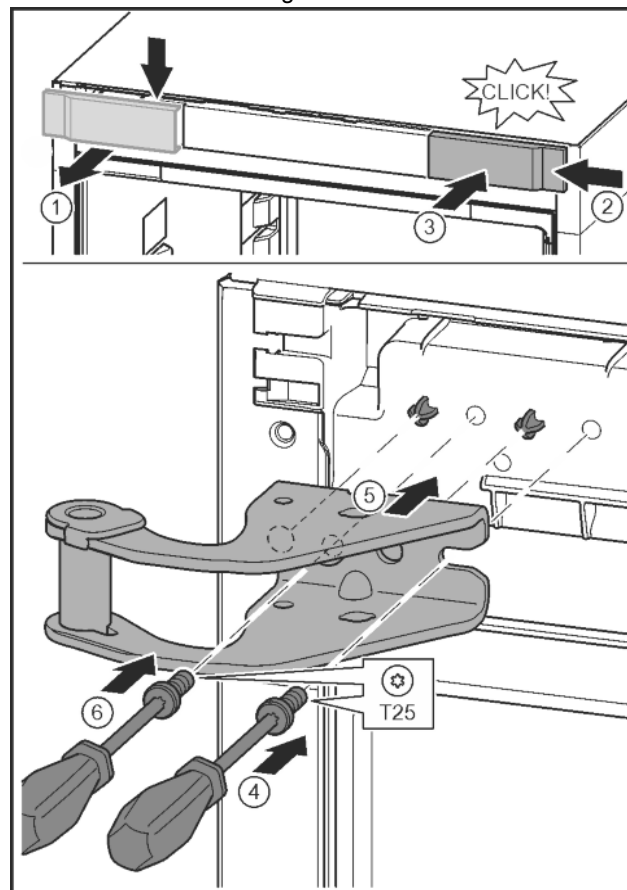

Fig. 14
- ▶ Release the cover and remove from the side. *Fig. 14 (1)*
- ▶ Rotate the cover 180° and clip onto the other side from the right. *Fig. 14 (2)*
- ▶ Click the cover into place. *Fig. 14 (3)*
- ▶ Position the screw with a T25 screwdriver. *Fig. 14 (4)*
- ▶ Position the upper bearing bracket. *Fig. 14 (5)*
- ▶ Tighten the screw. *Fig. 14 (4)*
- ▶ Insert the screw with a T25 screwdriver and tighten. *Fig. 14 (6)*